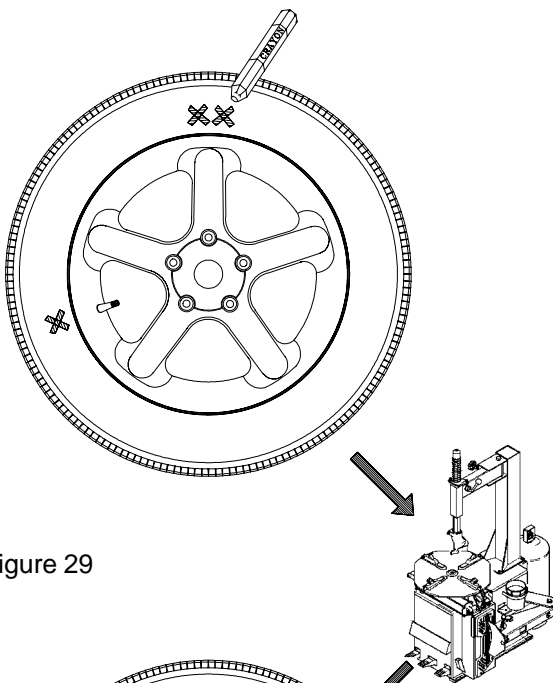

Figure 29
Due to a large amount of remaining imbalance the operator can continue match mount. Machine displays "**CrS**" "**r**" and "**tur**" "**tir**" alternatively. This instructs the operator to turn the wheel and make a double cross mark (XX) on the right side of the tire at 12 o'clock position when the right center position LED turns to green. See Figure 29.